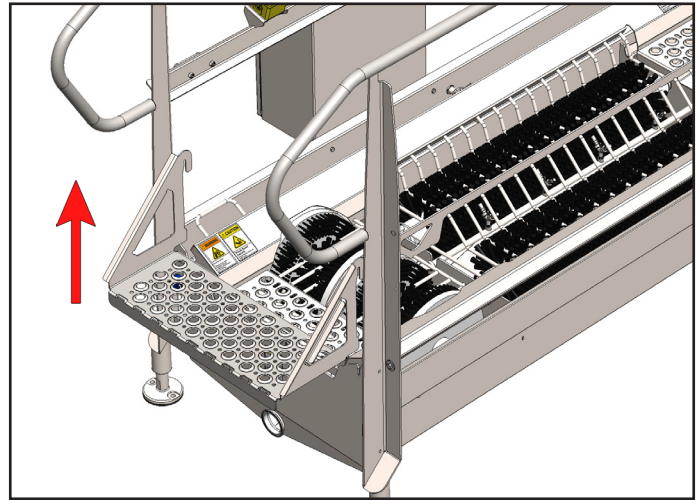

Fig. 12.1: Step removal, shown with BLX-1000R
3. Lift up to remove from tub [Figure 12.1].